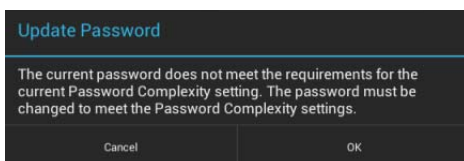

FIG. 81 Update Password dialog
3. The panel will prompt you to create a new password that meets the minimum complexity requirements for High Security mode (FIG. 81): .